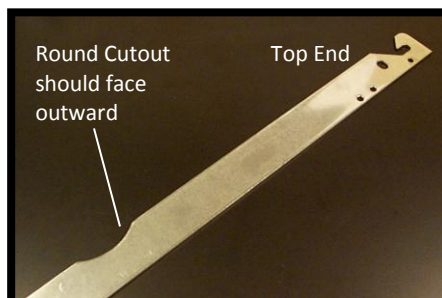

Figure 56: Latch Connector
3. Make sure the new latch connector is right side up (Figure 56).